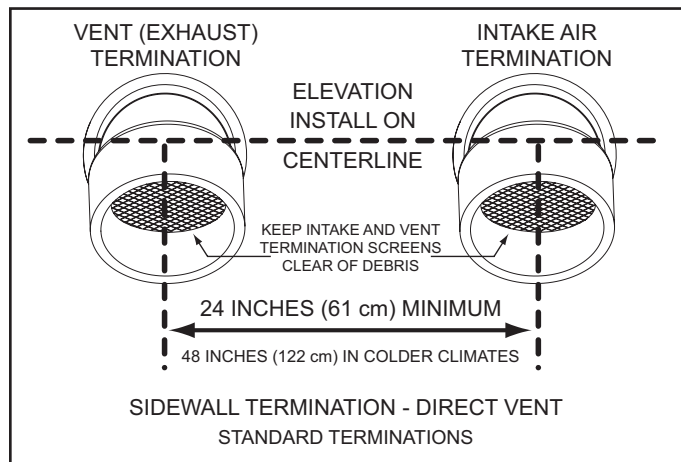

Figure 22
4. If installing both an intake air and vent termination in a Direct Vent configuration through a sidewall there must be a minimum of 24 inches (61 cm) separation, measured on vertical center line, between the intake air and vent terminations, see Figure 22.
5. If installing both intake air and vent terminations in a Direct Vent configuration through a sidewall the intake air and vent terminations must be installed at the same elevation measured on horizontal center line - see Figure 22.
However, the distance between the closest vent and intake air terminations must be a minimum of 24 inches (61 cm). In colder climates this separation should be increased to at least 48 inches (122 cm). See Figure 22.